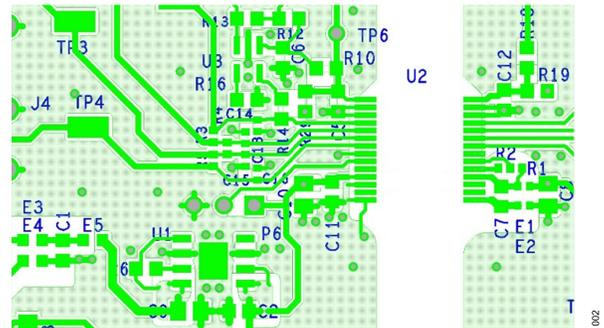

Figure 3. Layout Notes for EVAL-ADUM6421ARNZ/EVAL-ADUM6421AURNZ
- ▶ Ensure that  $V_{ISO}$  (Pin 18) is connected through the E2 ferrite bead before connecting to the  $V_{ISO}$  load, as shown in Figure 3.
- ▶ Ensure that there is a keep out area in the PCB layout around E1 and E2, as shown in Figure 3.